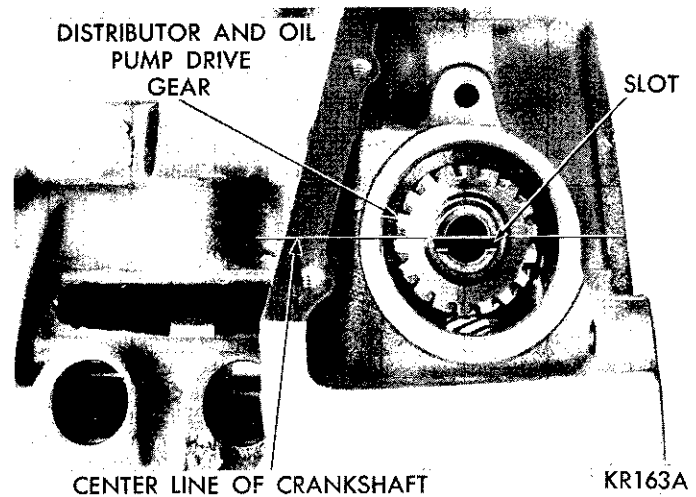

Fig. 34—Distributor Drive Gear Installed
(1) Rotate crankshaft until NO. 1 cylinder is at top dead center on the firing stroke.
(2) When in this position, the straight line on the vibration damper should be under "0" on timing indicator.
(3) Coat shaft and drive gear with engine oil. Install the shaft so that after gear spirals into place, it will index with the oil pump shaft, so slot in top of drive gear will be parallel with center line of crankshaft (Fig. 34).